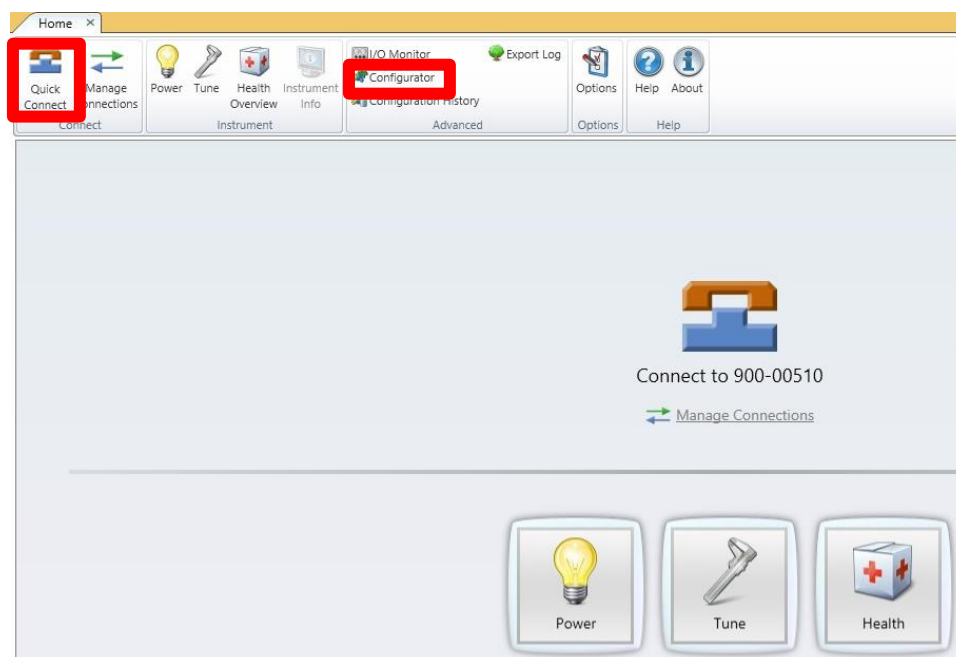

Figure 3.7 – Connection screen
3. Connect to the instrument using the “Quick Connect” button located in the upper left portion of the screen. When connected, click the “Configurator” button to open the “Configuration” tab (Figure 3.7).